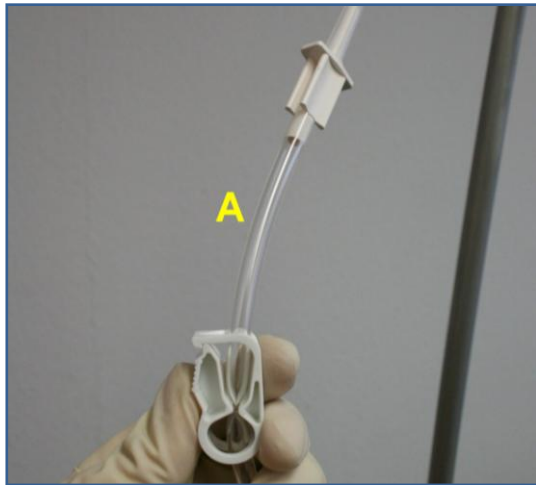

Fig. 4-20: Close the transfer tube
Close one transfer tube (A) by means of the clamp (Fig. 4-20), but before remove the protection cap from its pricking pin.